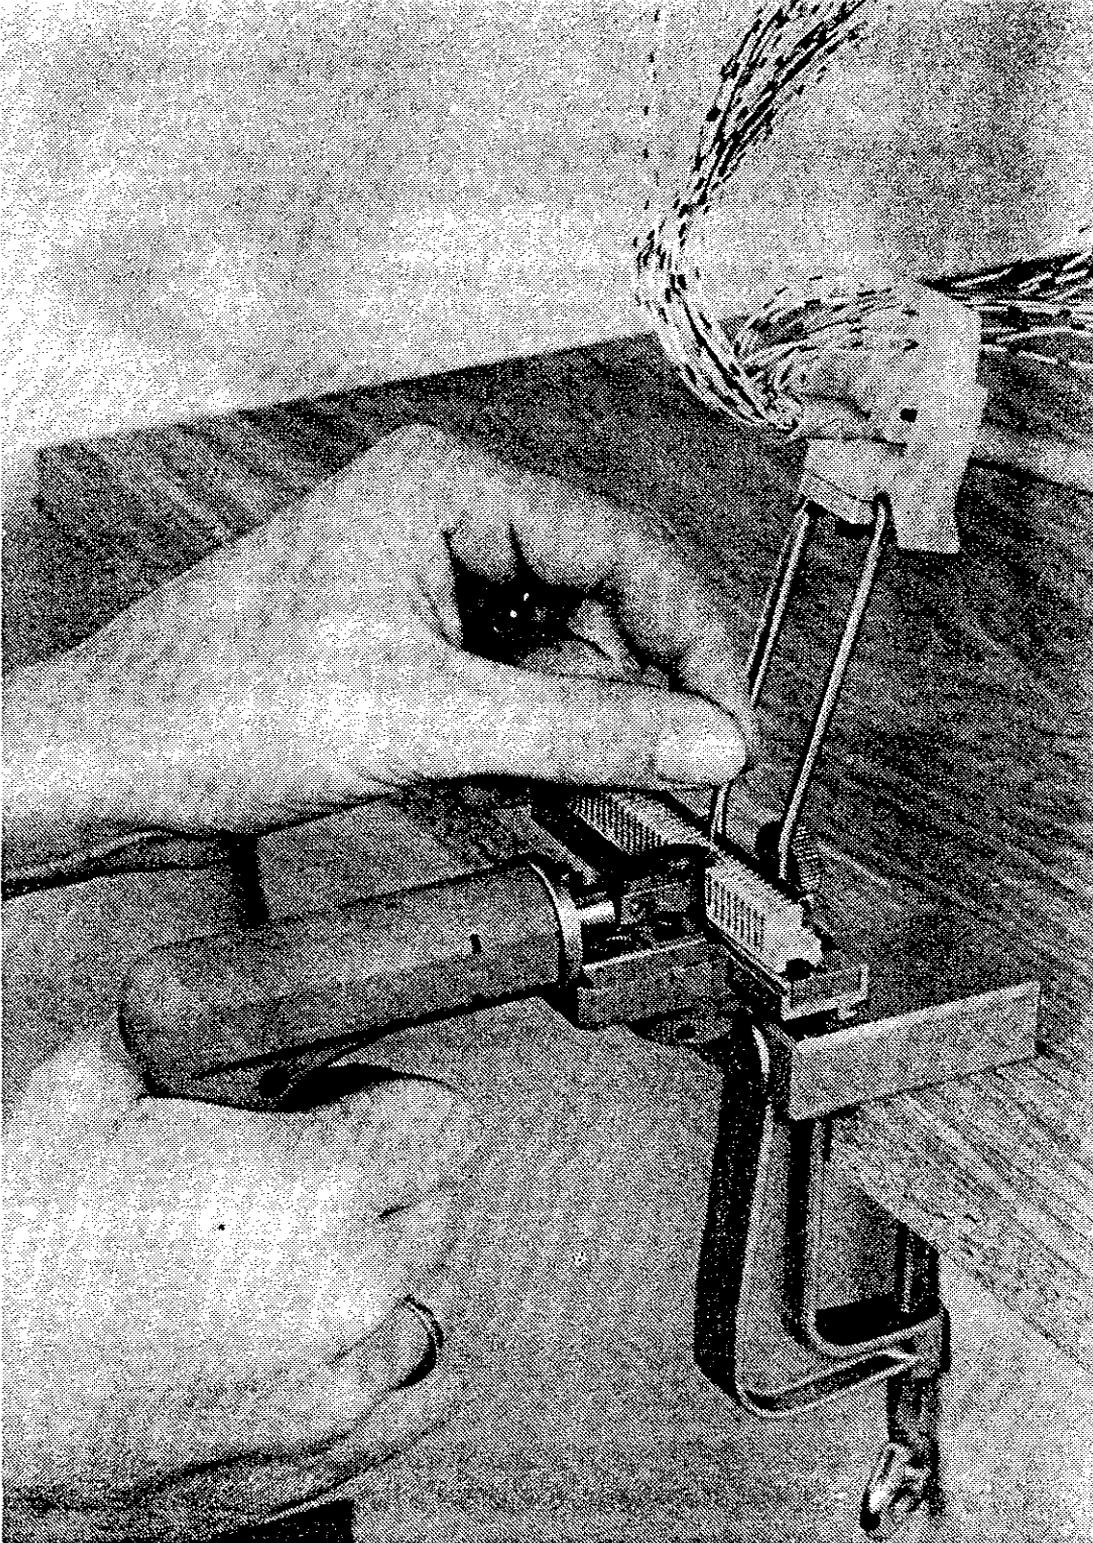

Figure 3
5. UTILISATION DE LA PINCE (figure 3)